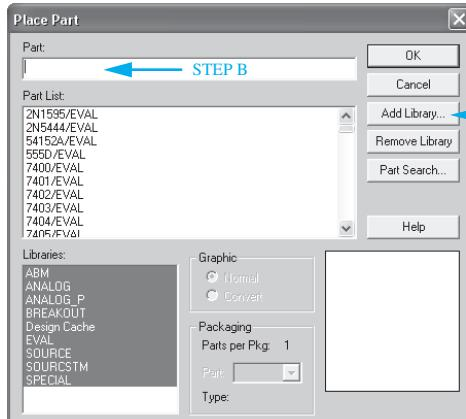
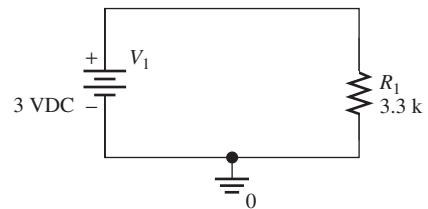

FIGURE 2.63 Place Part and Add Library.
FIGURE 2.64 PSpice schematic circuit for Example 2.12.
1. Select “Place” > “Part” or click on the icon . A window (as shown in Figure 2.63) will pop up.
2. The electronic parts are stored in a specific library file. Therefore, the library files are required to load into the Parts Database and search and place the particular electronic parts on the PSpice circuit board. To place the parts, choose Add Library (STEP A in Figure 2.63) and highlight all of the files or “Ctrl+A” to add all of the *.olb/* .lib files into the library.
3. Continuing with Example 2.12, to add a DC voltage source, type “Vdc” in the Part column (STEP B in Figure 2.63) and then click OK. Place the “Vdc” icon as shown in Figure 2.64, and then right click and choose “End Mode.” *Press “r” to change the orientation or direction of the voltage source.*
5. To place a resistor on the circuit board, go to “Place” > “Part” and type “R” in the Part column, then click OK. (Note: be sure to use R/analog and not R/discrete.) Place the resistor, “R1” as shown in Figure 2.64. *Press “r” to change the orientation of the resistor.*
12. A window that is similar to Place Part (Figure 2.63) will pop up. Choose add library, and choose source.olb/source.lib to add the ground into the library. Next, choose “0/Source” and place it as shown in Figure 2.64. Note: Always either press “Esc” or right click and choose “End” to complete the insertion.
13. You should be cautious not to choose and place any parts in the list of Figure 2.63 that have the suffix “Design Cache,” that is, called “*partname*/Design Cache” in the PSpice circuit board. PSpice is unable to run any simulation analysis with those components.